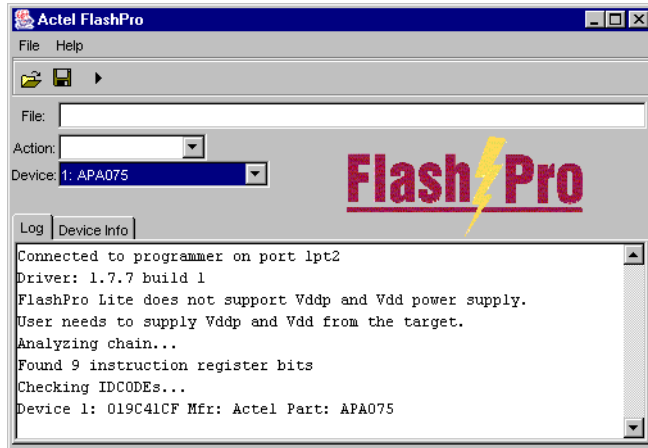

Figure 3-3. FlashPro: Analyzing Chain
1. **From the File menu, click Analyze Chain.** Chain details appear in the Log window, as shown in Figure 3-3. If you encounter any failures,